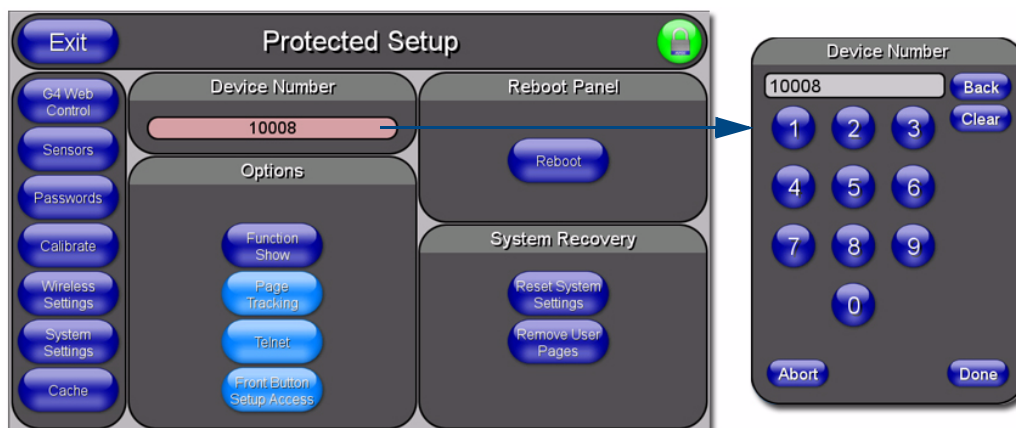

FIG. 25 Protected Setup page
1. Press the *Device Number* field to open the Device Number keypad (FIG. 25).